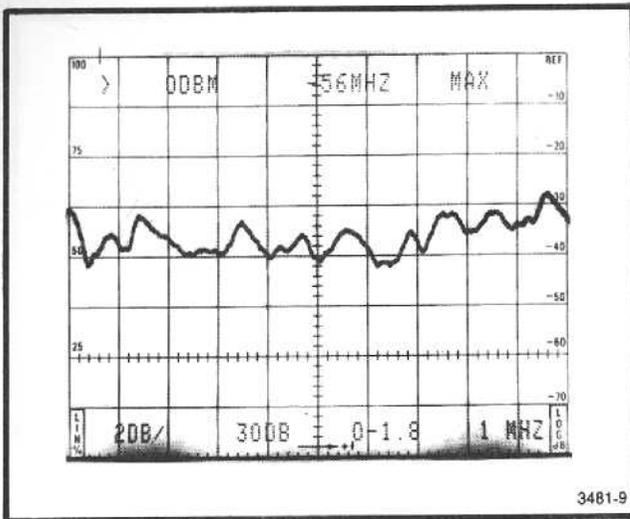

Fig. 3-7. Typical display showing frequency response from a sweeping signal source.
h. Check the frequency response as the sweep generator sweeps across the 0.01 to 2.4 GHz span. Deviation must not exceed  $\pm 1.5$  dB up to 1.8 GHz (upper limit of 496/496P). Refer to Fig. 3-7.